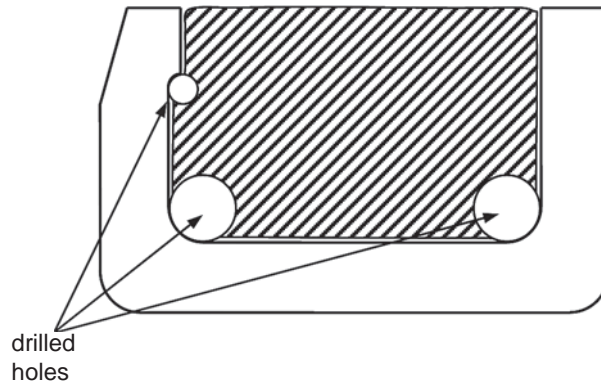

Figure 10
d. A bandsaw will be used to cut out the inside of the body (shown hatched in Figure 10).